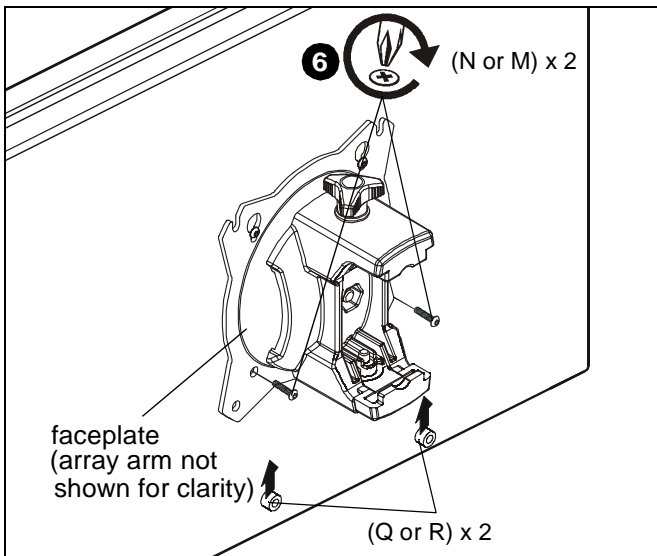

Figure 17
5. Slide two remaining selected spacers (Q or R) in between faceplate and display, positioning them over the *lower* two mounting holes. (See Figure 17)
6. Install two remaining selected screws (N or M) through *lower* two mounting holes on faceplate, selected spacers (Q or R) into the *lower* mounting holes on the display. (See Figure 17)